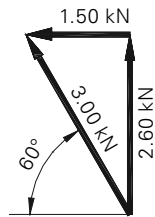

Fig. A7.04
- Permissible horizontal component of the tension load on the anchor chain = $3 \text{ kN} \times \cos 60^\circ = 1.5 \text{ kN}$. (Fig. A7.04)